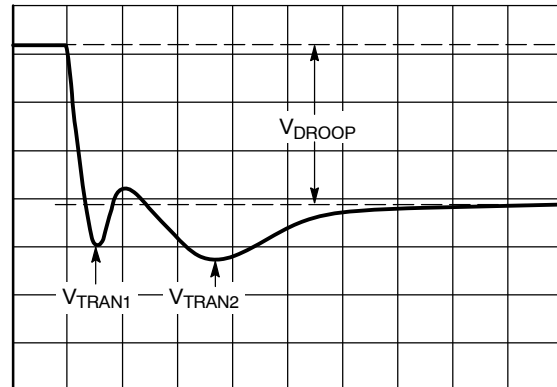

Figure 38. Transient Setting Waveform, Load Step
1. With the dynamic load set at its maximum step size, expand the scope time scale to 2  $\mu\text{s}/\text{div}$  to 5  $\mu\text{s}/\text{div}$ . This results in a waveform that may have two overshoots and one minor undershoot before achieving the final desired value after  $V_{\text{DROOP}}$  (see Figure 38).